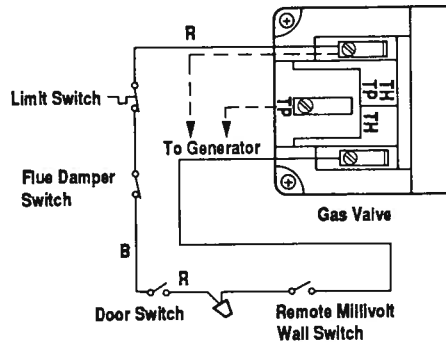

Figure 43
Step 8. Attach one wire from the remote millivolt wall switch to the "TH" terminal on the gas control valve. Connect the other wire from the remote millivolt wall switch to the red wire (nut provided on wire) located on the door switch mounted to the control access door. Connect the blue wire, hanging in control compartment, from flue damper switch to empty terminal on door switch (Figure 43).